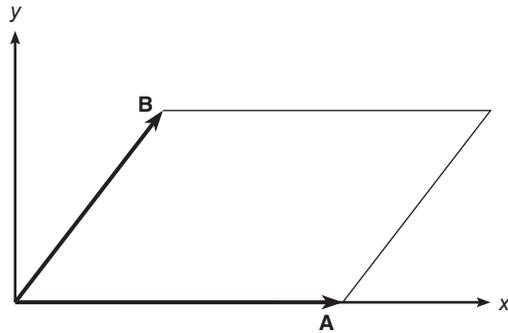

Figure P33
33. The area of a parallelogram can be computed from  $|\mathbf{A} \times \mathbf{B}|$ , where  $\mathbf{A}$  and  $\mathbf{B}$  define two sides of the parallelogram (see Figure P33). Compute the area of a parallelogram defined by  $\mathbf{A} = 5\mathbf{i}$  and  $\mathbf{B} = \mathbf{i} + 3\mathbf{j}$ .